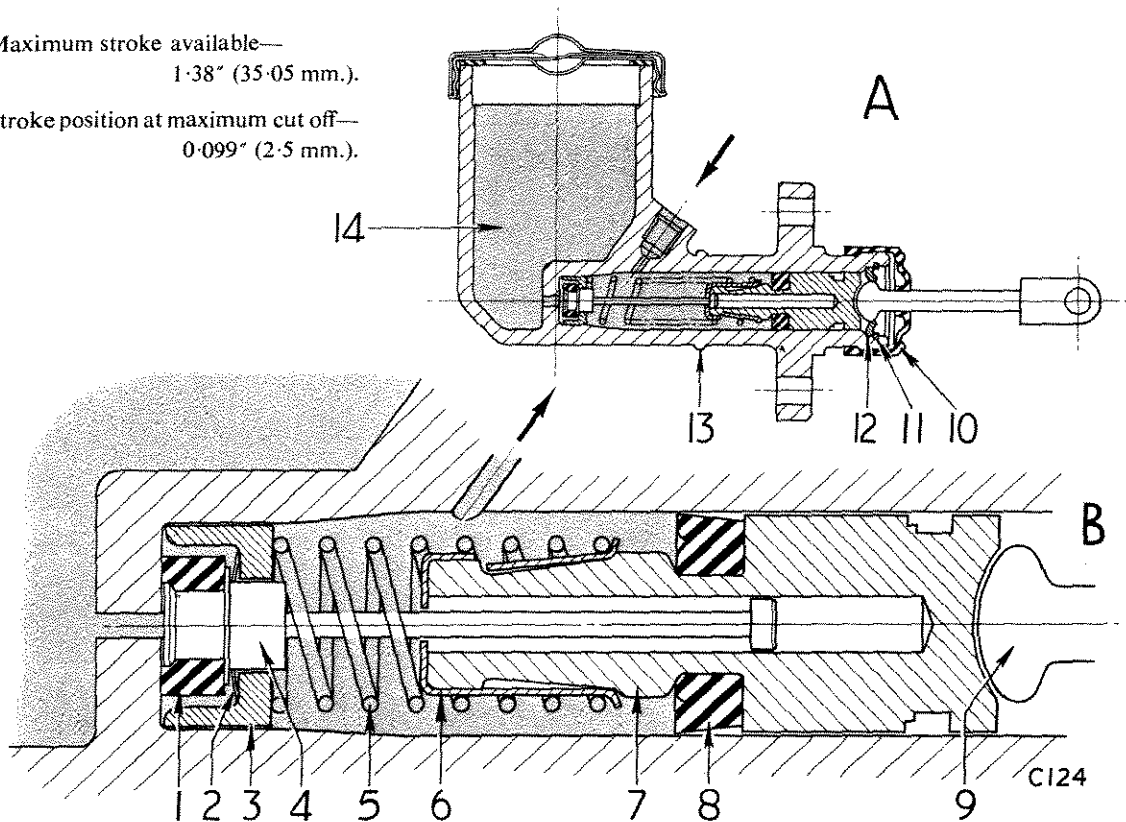

Fig. 4. Section through clutch master cylinder
### Clutch Master Cylinder (Figs. 4 and 5)
1. Refit the seals (1) and (8) to items (4) and (7) as shown on Fig. 4.
2. Fit the spring (2), distance piece (3) and spring (5) to the valve shank (4), attach the spring retainer (6) and fit the assembly to the plunger (7). Lubricate the components with clean hydraulic fluid and fit them to the master cylinder bore. Fit the push rod (9) with stop plate (12), circlip (11) and dust cover (10).